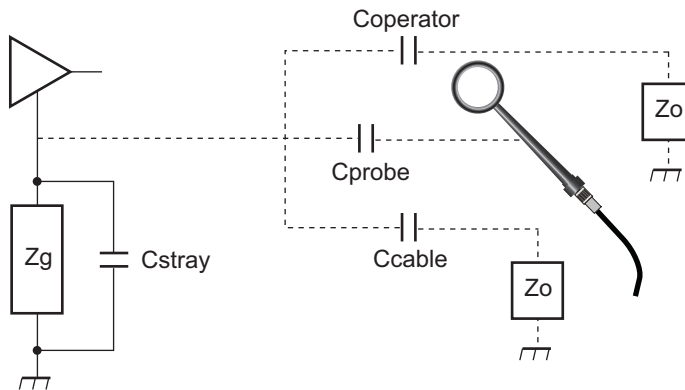

Figure 2-9. Probe and Operator May Become Part of the Circuit
2. The probe becomes part of the circuit during near-field measurements (Figure 2-9 on page 2-14). There is capacitance and inductance between the circuit being measured and the probe with the associated cabling. The probe will re-radiate the received field, altering the field being measured.